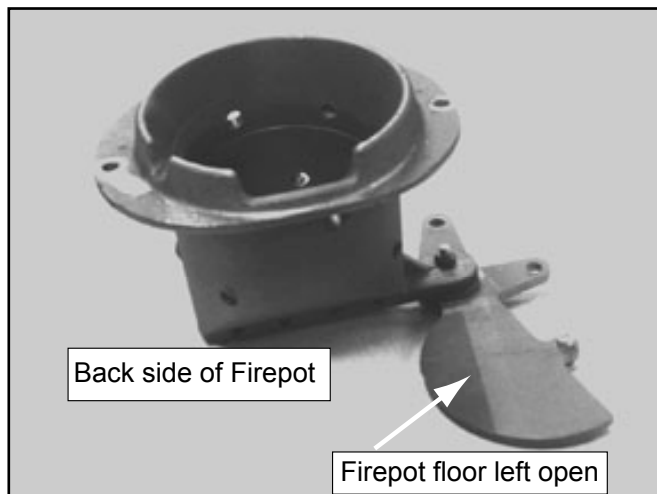

Figure 24.1 - DO NOT LEAVE FIREPOT FLOOR OPEN
- c. The firepot floor plate must be fully closed when finished. **Figure 24.1 on page 24.**